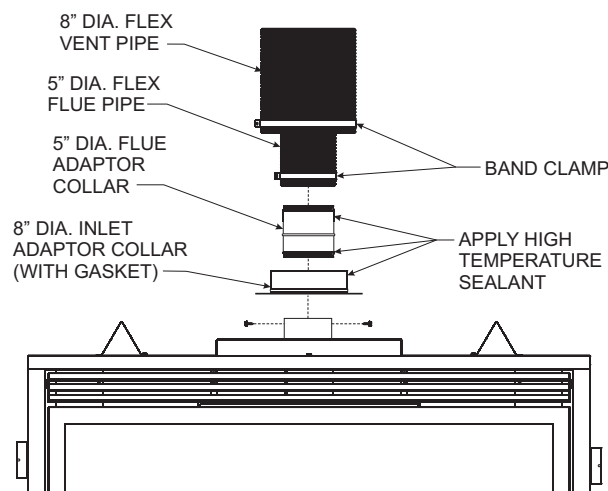

Figure 57
9. Apply sealant to the outside of the flue pipe adapter and connect to the flex flue pipe. Then insert the adapter into the fireplace flue. Secure flue adapter to the fireplace flue with a minimum of two screws provided. **See Figure 57.**